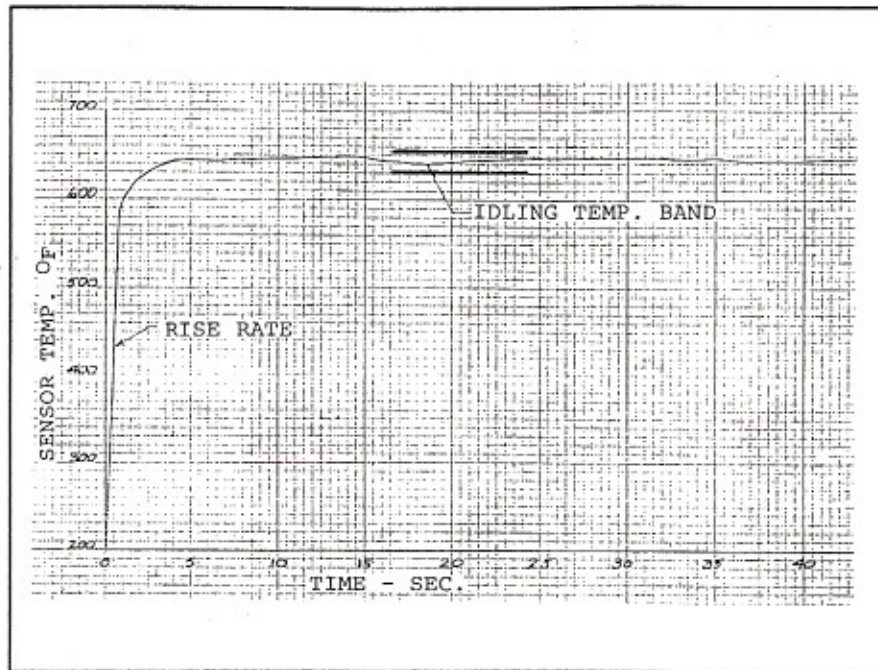

Figure 5. Typical Soldering Iron Tip Temperature Display
- c. Temperature recording can be made using the output jack. A typical time-temperature history of a Mil-Spec soldering iron test is shown by Fig. 5, page 14.